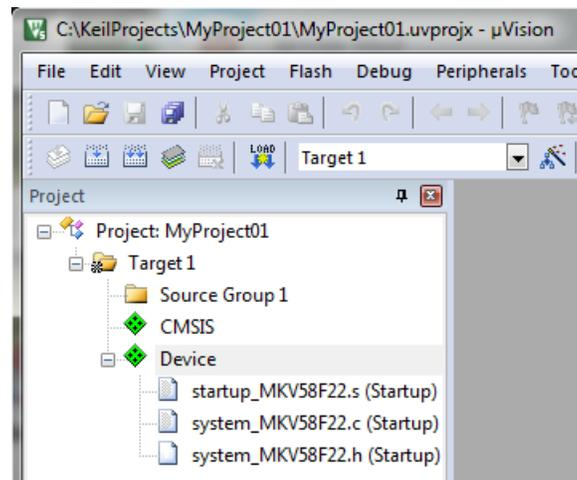

Figure 1-27. Project
- Click OK, and a new project is created. The new project is now visible in the left-hand part of Keil μ Vision. See Figure 1-27.
- Select Use Single Precision in the Floating Point Hardware option. See Figure 1-27.